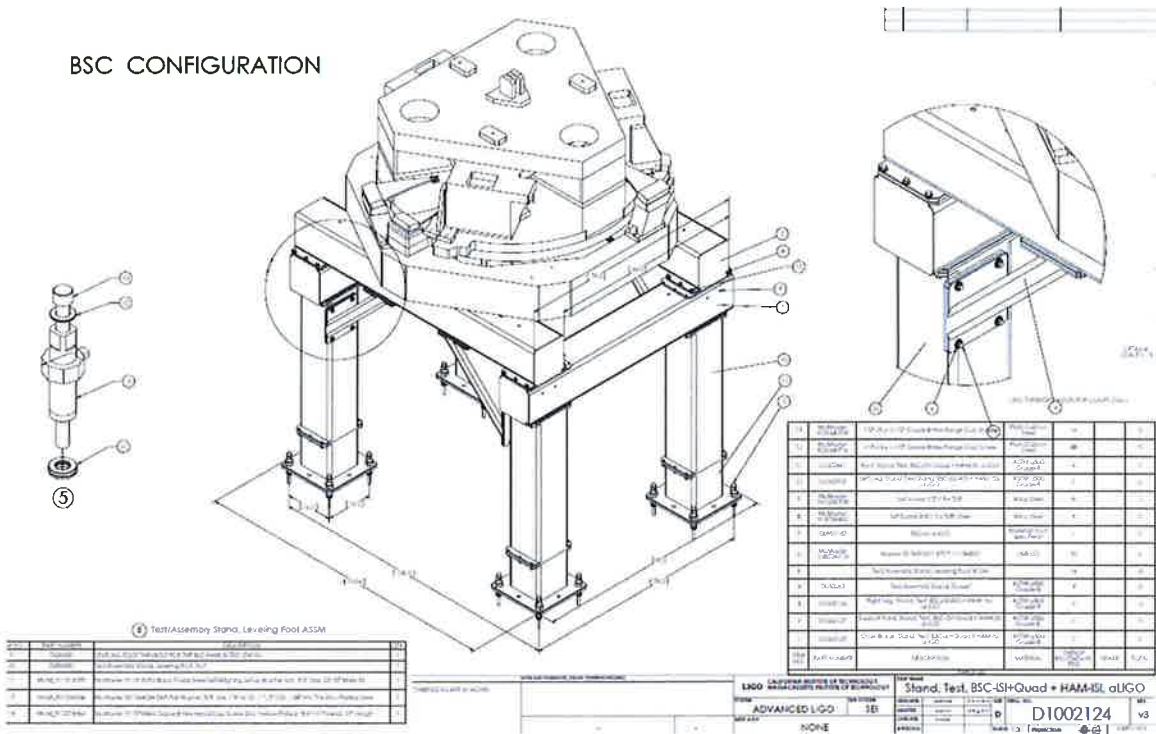

Figure 4 BSC Mechanical Test Stand, refer to (D1002124)
- The BSC ISI is fastened to the BSC Mechanical Test Stand (D1002124) see also figure 4.